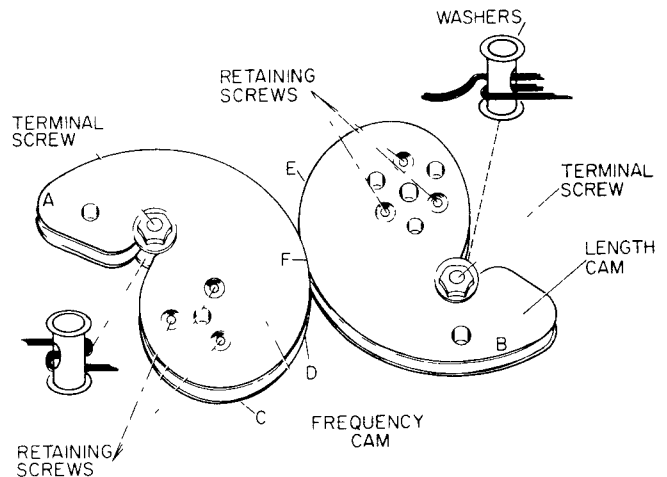

Figure 5-12. Cam Assembly
5-54. If it is necessary to replace cam cable, order it by HP Stock No. 08614-299 and description of usage. For easier access to the cams, remove the screws holding the High Voltage circuit board and swing the board out of the way. Use Figures 5-12 and 5-13 as guides and proceed as follows:
- c. Turn FREQUENCY (MC) to approximately the middle of the frequency band.
- d. Orient Length Cam to Frequency Cam as shown in Figure 5-12.
- k. Slide cable through one terminal screw so that cable is oriented to terminal screw as shown in Figure 5-12 for the Frequency Cam, and install terminal screws on Frequency Cam.
Each cam as shown in Figure 5-12 has two lips along which the cable should travel: one cable must travel along the upper lip of both cams and one cable must travel along the lower lip of both cams.
t. Slide cable ends through second terminal screw so that cable is oriented to terminal screw as shown in Figure 5-12 for the Length Cam.